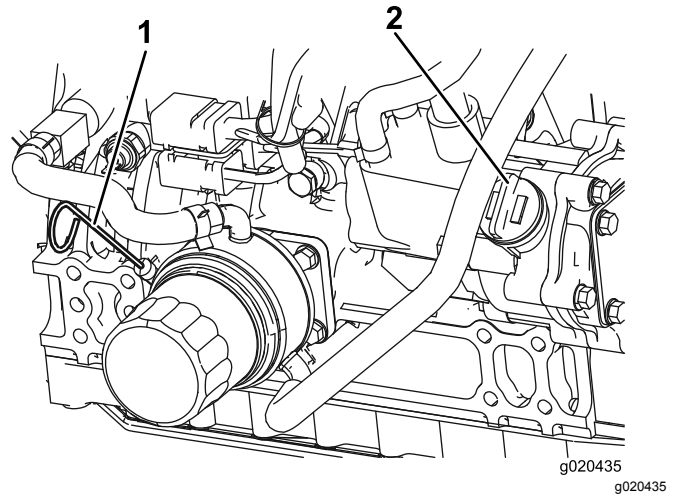

Figure 12
The oil level should be in the safe range (Figure 12).
4. If the oil is below the safe range, remove the fill cap (Figure 12) and add oil until the level reaches the FULL mark. **Do not overfill.**